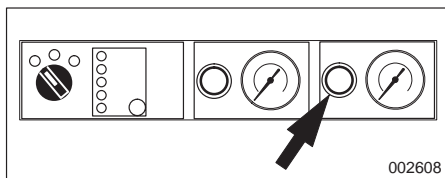

Fig. 16
- Turn off powder recovery with the pressure regulator on the master control module (Fig. 16) by making pressure zero.